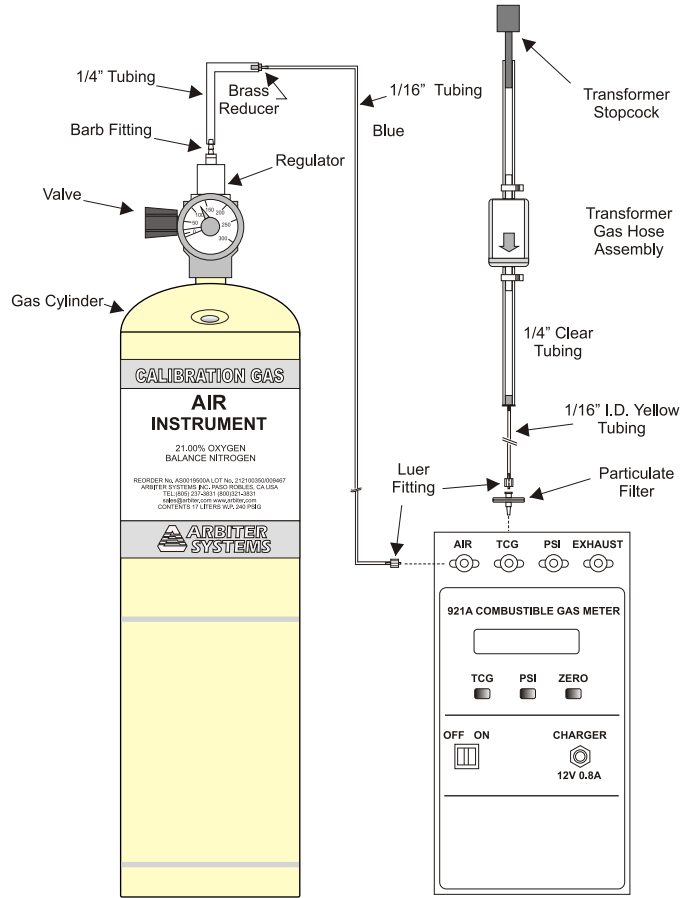

Figure 3.4: TCG Measurement, 1 to 5 PSI
1. Make sure the Air Instrument is connected to the ZERO-AIR port on the 921A as described in Figure 3.4.